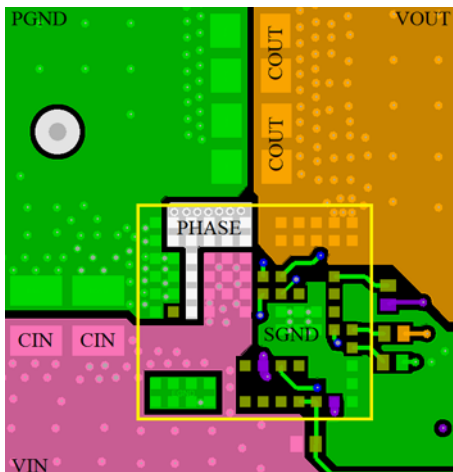
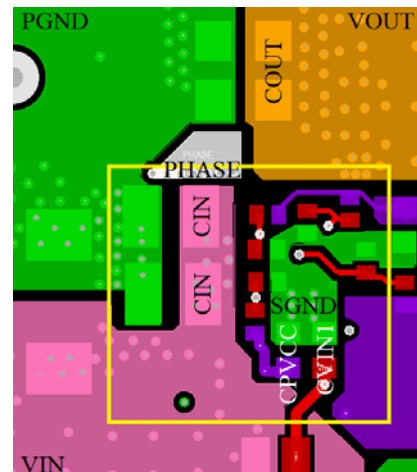

Figure 2. Layout Example - Top Layer
Figure 3. Layout Example - Bottom Layer
- (1) Renesas recommends using a six-layer PCB board. Use the top and bottom layer to route VIN and VOUT. Use a full ground plane in the internal layers (underneath the module) with shared SGND and PGND to simplify the layout design. Use another full ground plane directly above the bottom layer. Use the other internal layers to route the remote sense and PGOOD signals.
- (2) Place the input capacitors and high frequency decoupling ceramic capacitors between VIN and PGND as close to the module as possible. The loop formed by the input capacitors, VIN, and PGND must be as small as possible to minimize high frequency noise. Place the output ceramic capacitors close to VOUT. Use a copper plane to connect the output ceramic capacitors to the load to avoid any parasitic inductances and resistances. See Figures 2 and 3 for an example layout.
- (3) Use large copper planes for power paths (VIN, VOUT, and PGND) to minimize conduction loss and thermal stress. Use multiple vias to connect the power planes in different layers.
- (4) Do not oversize the copper planes for the PHASE planes. Because the PHASE planes are subjected to very high dv/dt, the parasitic capacitor formed between these planes and the surrounding circuitry tends to couple the switching noise. Ensure that none of the sensitive signal traces are routed close to the PHASE plane.
- (5) Place the PVCC and VIN1 bypass capacitors underneath the PVCC and VIN1 pins and connect their grounds to the SGND. For the external pin-strap resistor dividers connected to SET1, SET2, SET3, and SET4, connect the low side dividers' ground to the SGND. If a local decoupling capacitor is used to bias these resistor dividers, place the decoupling capacitor close to the dividers and connect the capacitor's ground to the SGND. See Figure 3 for an example layout.
- (6) Connect remote sensing traces to the regulation point to achieve a tight output voltage regulation. Route the remote sensing traces in parallel underneath the PGND layer and avoid routing the sensing trace near noisy planes such as PHASE. Place 2Ω resistors close to both VSEN and RGND to dampen the noise on the traces.